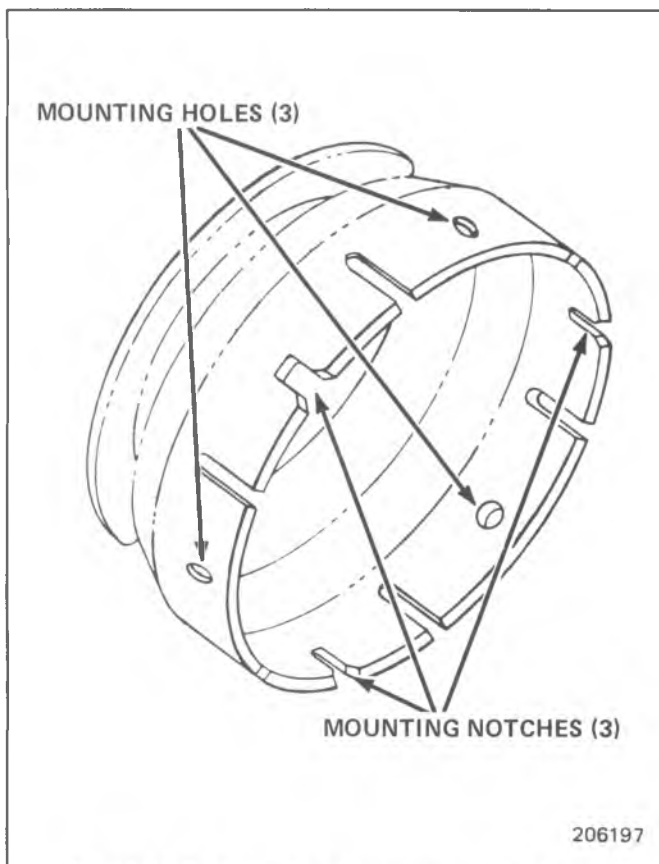

Fig. 1D-86 R-4 Pulley Rim Mounting Location Detail
8. Lock the three screws in place by flattening the special washer against two sides of the hex head screw using vise grip pliers and one portion of the lockwasher bent down over the edge of the inertia ring slot, Fig. 1D-87. Do not move the screw heads from the torqued position. Locking of the screws must be similar to the production forming of the lockwasher in order to effectively retain the screw.